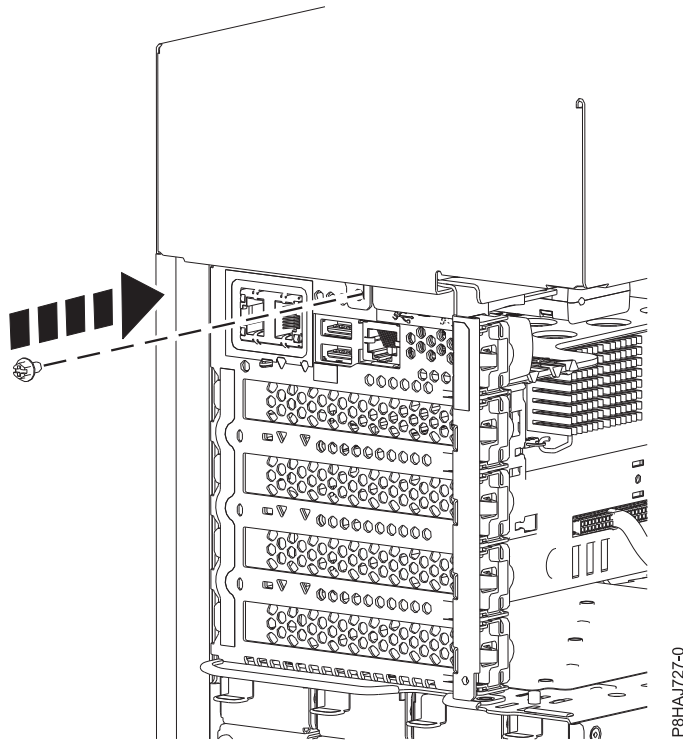

Figure 27. Installing the 8286-41A side cover screw
5. Install the side cover rear screw with a Phillips screwdriver as shown in Figure 27 on page 44.